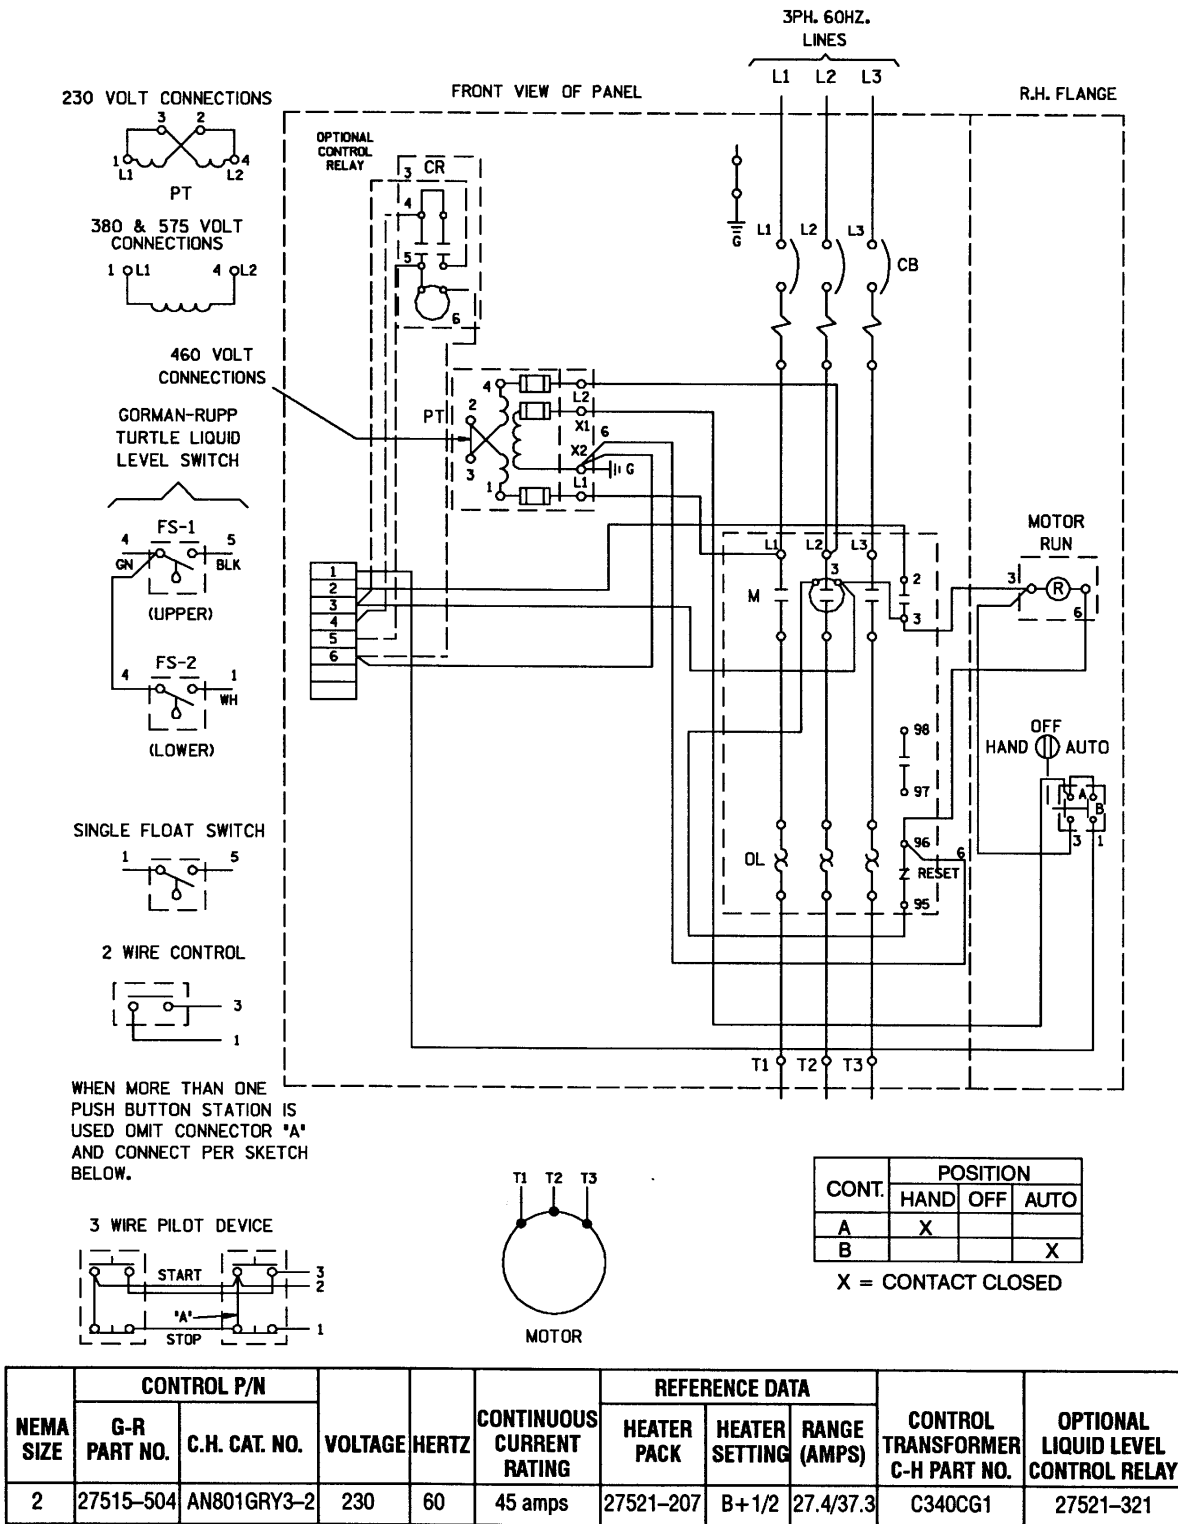
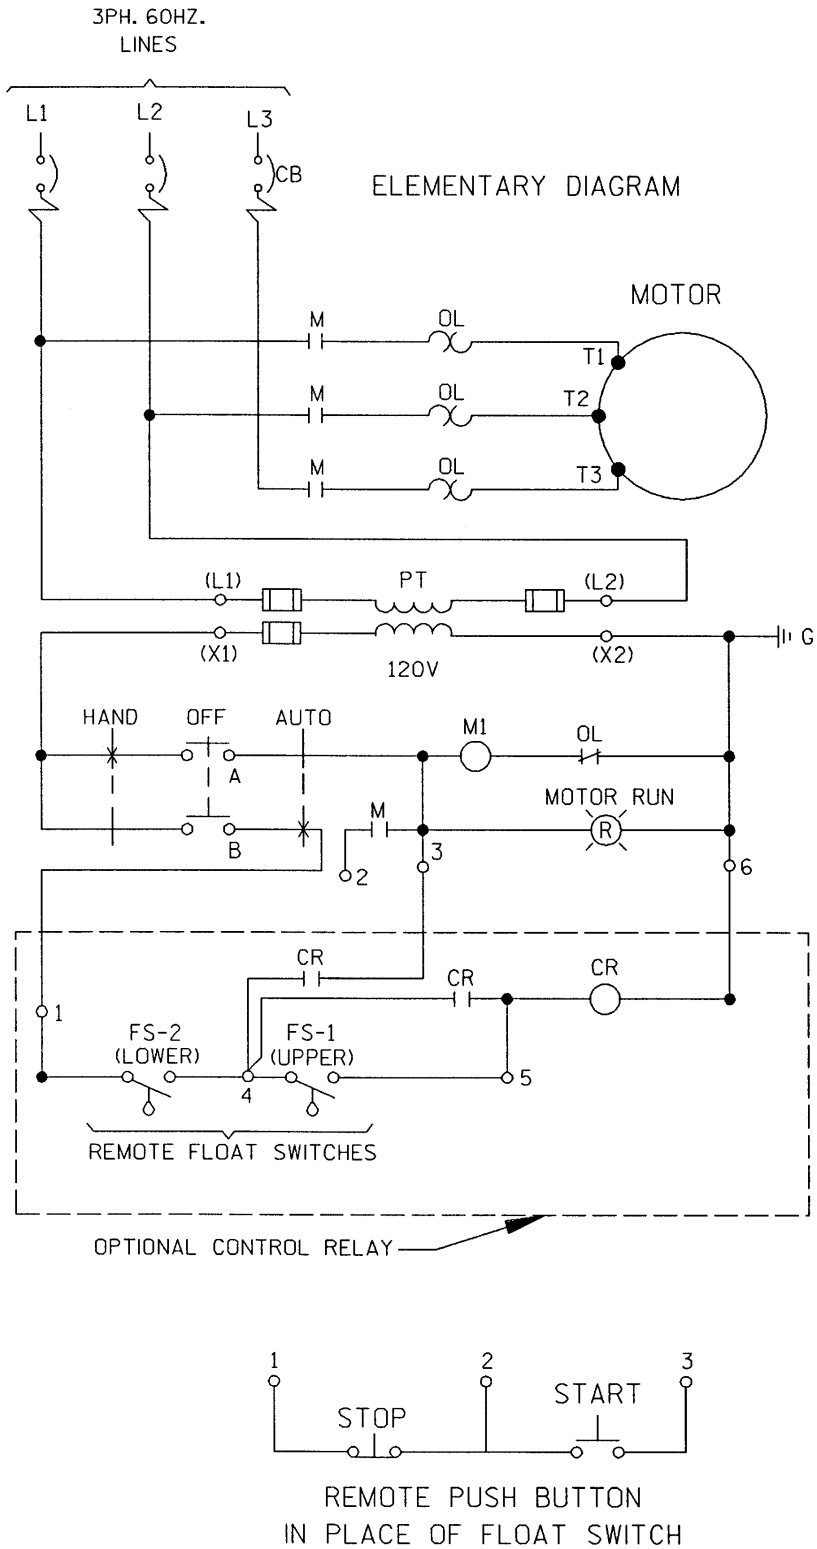

Figure 7. Magnetic Controller Connection Diagram For Control Box 27515-504
Figure 8. Magnetic Controller Elementary Diagram Based On Figure 7 on page B-14
- a. Measure the incoming voltage across lines (1 & 2, 2 & 3, and 1 & 3.) while the pump is **operating at full capacity**. See Figure 7 on page B-14 or Figure 8 on page B-15..
Connect the pump power cable to the control box as shown in Figure 7 on page B-14 or Figure 8 on page B-15.. Use conduit or cable clamps to secure the power and accessory cables to the control box. Make certain that all connections are tight and that cable entry points are rainproof.